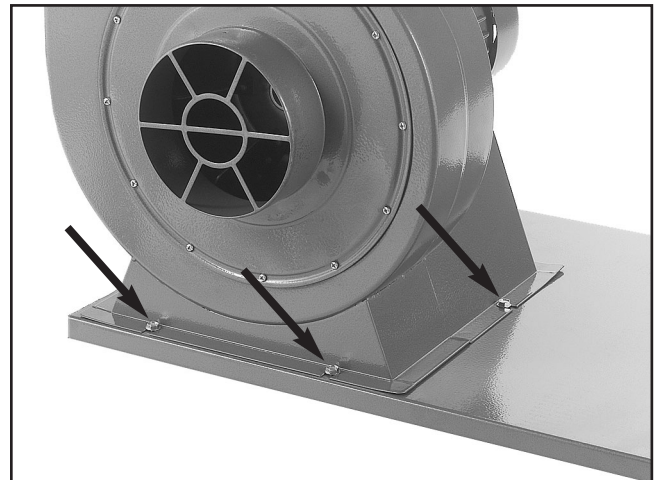

Figure 8. Motor and impeller attached to base.
2. Position the motor and impeller on the base and secure them with the flange bolts (**Figure 8**).